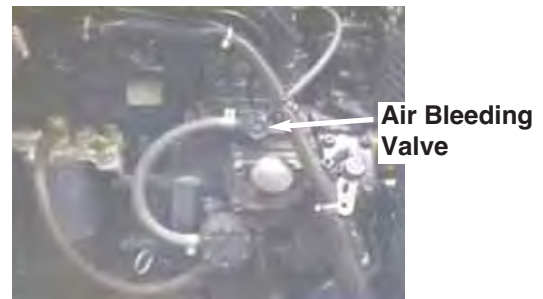

FIGURE D.1
1. Fully open the air bleeding valve by turning it counter clockwise, it is located on top of the fuel injection pump next to the oil filler. (see figure D.1)